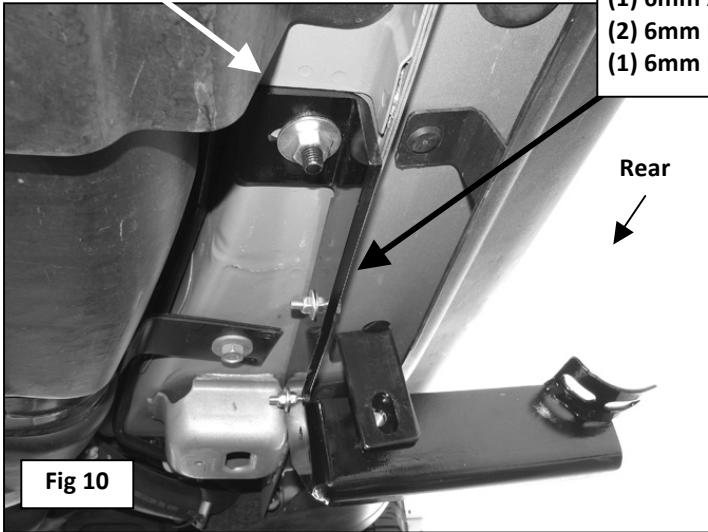

Fig 10
6. Next, select the Driver Side Rear Mounting Bracket. Bolt the Mounting Bracket to the back of the pinch weld with (2) 6mm x 25mm Hex Bolts, (4) 6mm Flat Washers and (2) 6mm Nylon Lock Nuts, (**Figure 10**). Hang the Bracket from the previously installed forward Bolt Plate with (1) 10mm Flat Washer, (1) 10mm Lock Washer and (1) 10mm Hex Nut, (**Figure 10**). Line up the hole in the Outer Support Bracket with the hole in the Mounting Bracket. Bolt the Brackets together with (1) 10mm x 30mm Hex Bolt, (2) 10mm Flat Washers, (1) 10mm Lock Washer and (1) 10mm Hex Nut, (**Figures 11 & 13**).